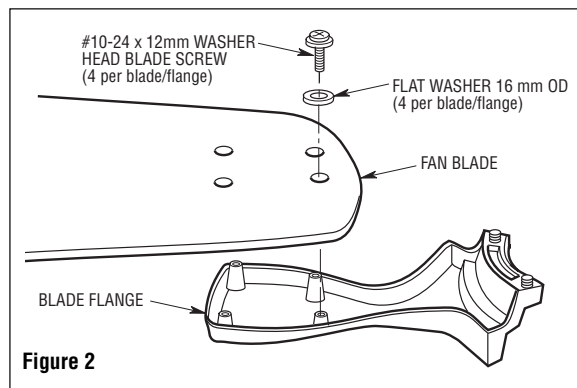

Figure 2
2. Mount blade flanges (supplied with fan) to fan blades (sold separately) using four #10-24 x 12mm washer head blade screws and four 16mm flat washers (supplied with fan) (Figure 2).